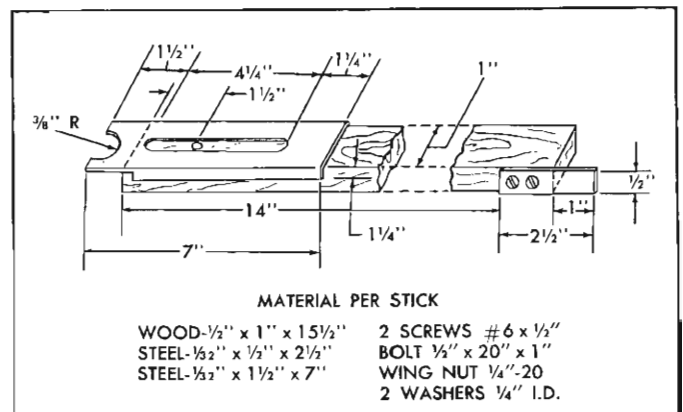

Fig. 60—Spacer Stick Dimensions
**NOTE:** Spacer stick may be made as shown in Figure 60.